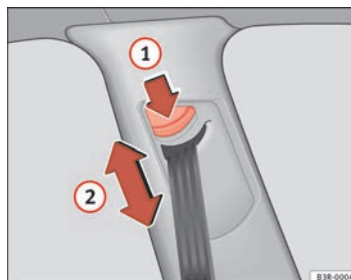

Fig. 16 Belt height adjustment - top guide fitting
- Press button ⇒ fig. 16  to adjust the belt height.
- Take hold of the top guide fitting and slide it up or down so that the shoulder part of the seat belt is positioned roughly midway over the shoulder, although **it must never rest against the neck** ⇒ page 25, fig. 16 ② ⇒ ⚠ in “Seat belt position” on page 23.